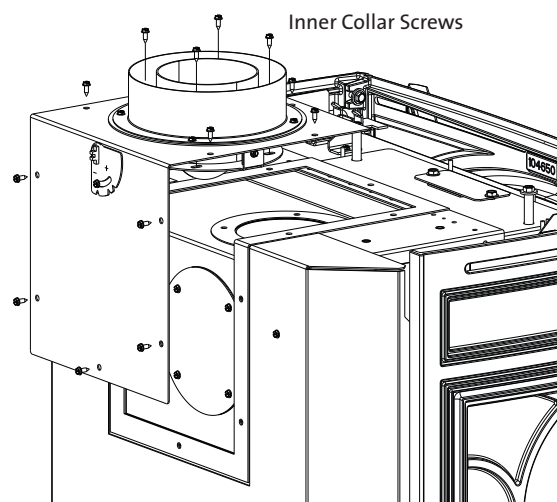

Figure 3.
1. Use a 1/4" nut driver to remove four inner screws from around the Vent Adaptor collar. See fig. 3. Remove five screws from around the top perimeter, and five additional screws from the rear perimeter. The vent adaptor will come away as an assembly.